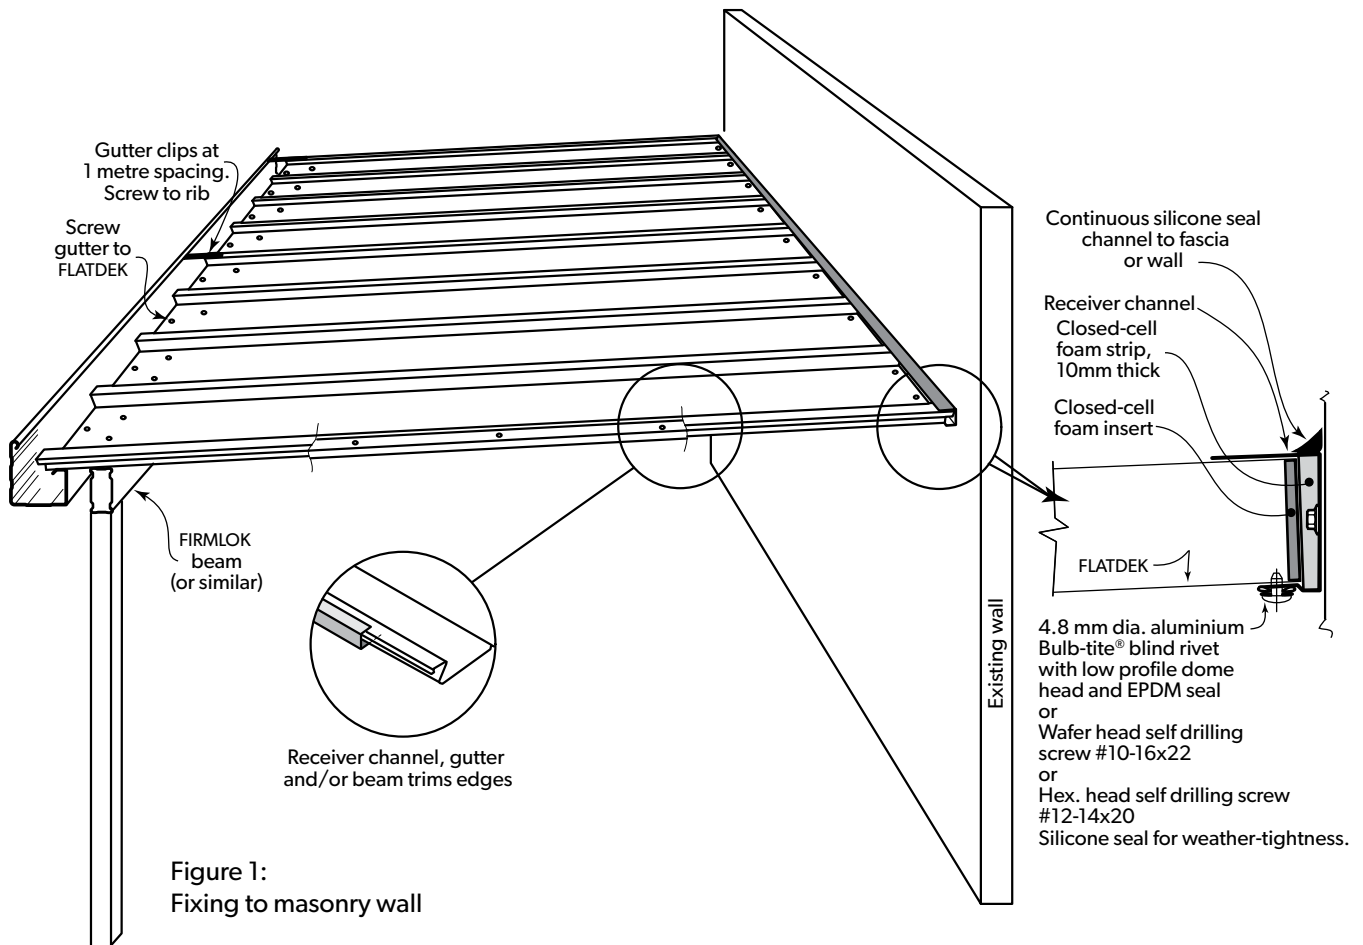

Figure 1:
A receiver channel is often used to securely fix the FLATDEK roof to the main building—usually to the building fascia, but the channel can be fixed to a solid wall if there is sufficient height to take wind uplift. (Figure 1).
4. Fix the sheet at the beam end (Figure 1). Tighten screws until washer is just gripped enough to give a weathertight seal. Don't tighten any more.
6. Fix the sheet at the receiver channel end (Figure 1).